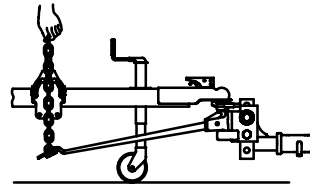

Figure 7
10. Position lift units on trailer "A" frame. If trailer tongue consists of a single tube or other narrow member, a pole tongue adapter (Draw-Tite P/N 3280) must be used. Hold spring bar chain vertical. Center lift units with chain [See figure 7].
1. With lift unit in raised position, pull straight up firmly on spring bar chain. Note which link is closest to chain hook [See figure 7]. Countdown (2) links and that link will be used for hook up.